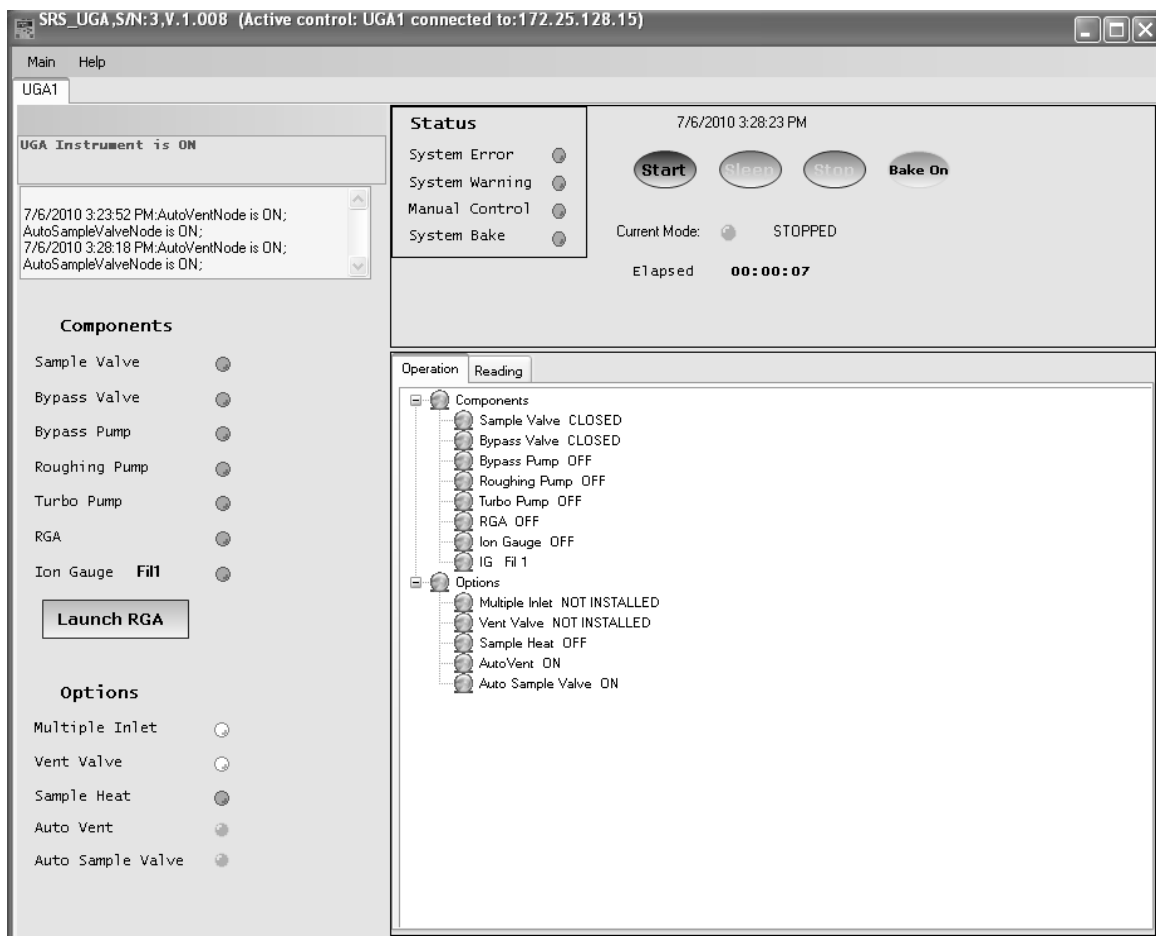

Fig. 2-15. Screenshot of UGA control software after proper TCP/IP Ethernet connection. On the title bar, the connection status is shown.
- The program shows the complete present state. Fig. 2-15 shows that the Multiple inlet is installed in this Unit and the position is at #12 channel. The unit is stopped, which is the Off state, etc.